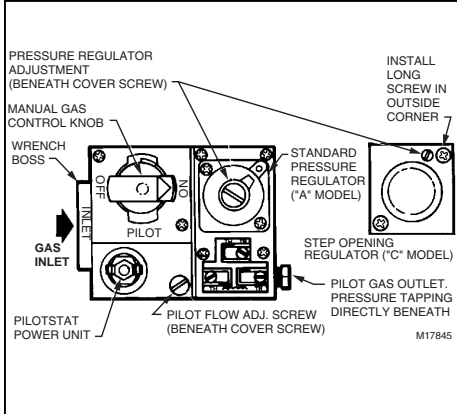

Fig. 3—Top view of standard capacity gas control.
6. Connect pipe to control inlet and outlet. To tighten inlet and outlet connections, use wrench on projecting wrench boss. Refer to Figs. 3 and 4.
The thermocouple connection to the power unit or ECO connector (Fig. 3) is an electrical connection and must be clean and dry. Never use pipe compound. Tighten only 1/4 turn beyond finger tight to give good electrical continuity.
1. Remove pilot adjustment cover screw. Refer to Fig. 3.